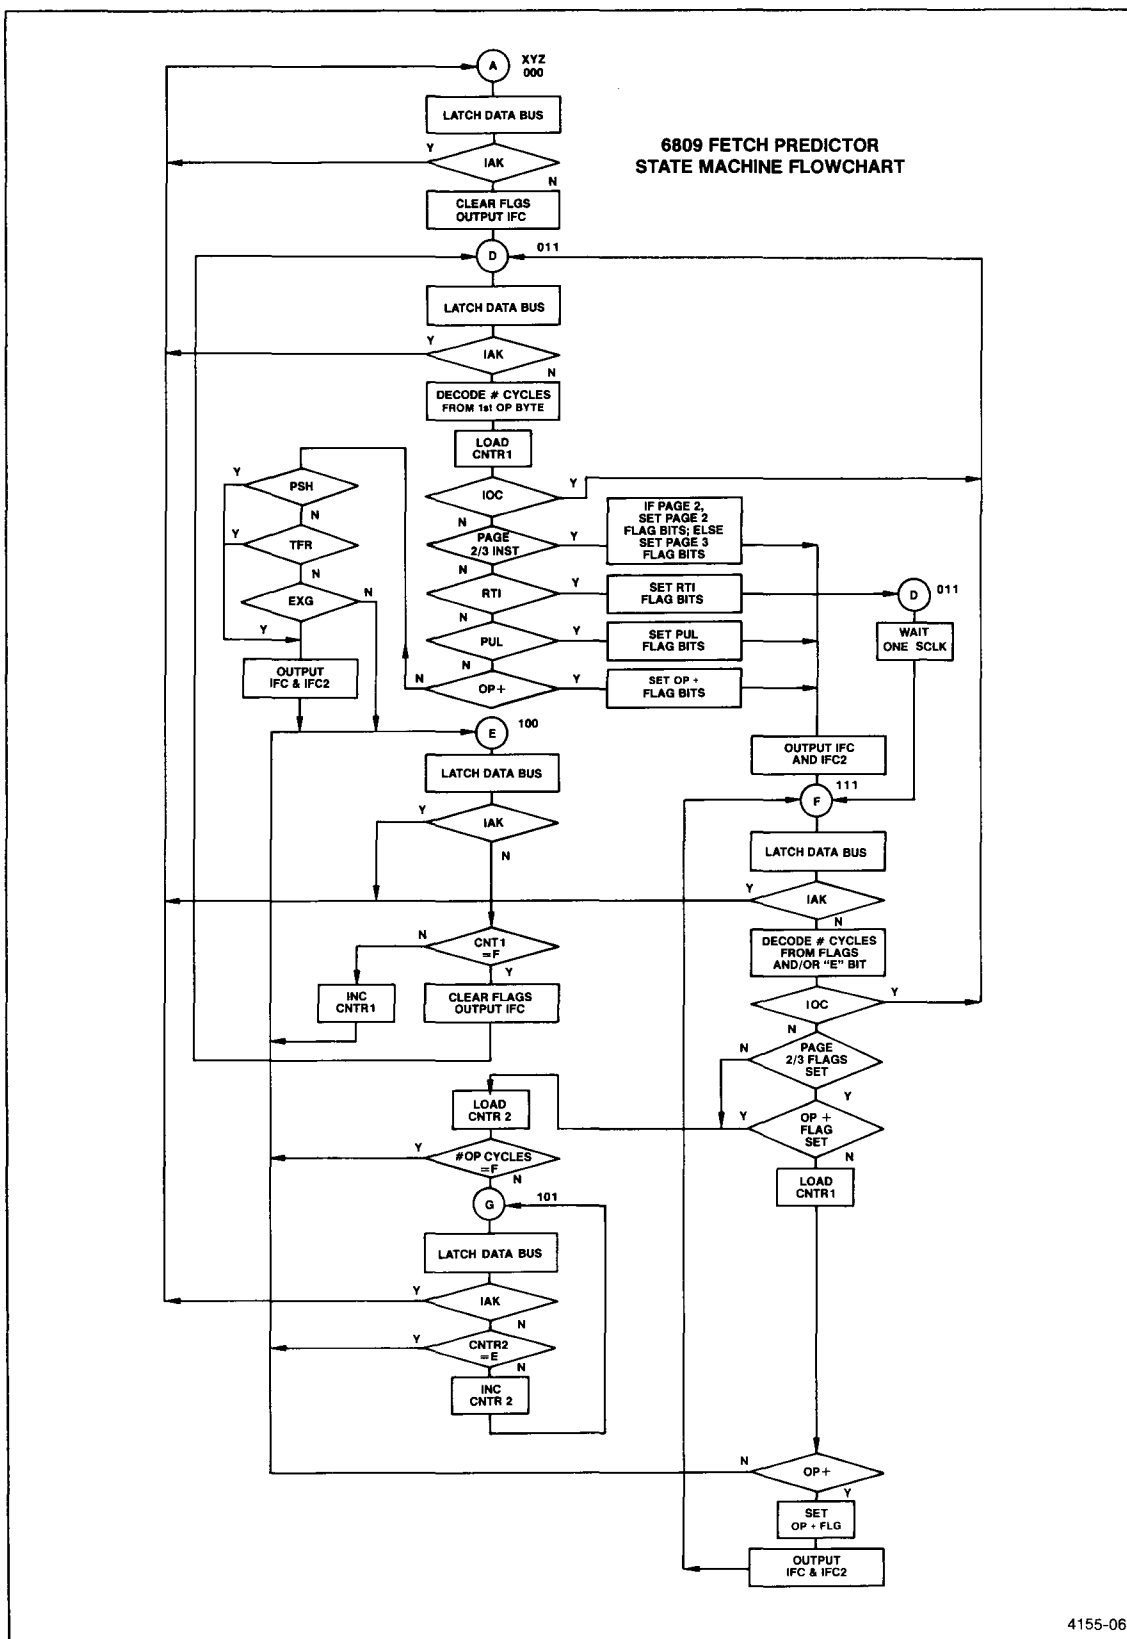

Figure 4-4. 6809 fetch predictor state machine flow chart.
The 6809 Fetch Predictor Flow Chart should aid in understanding the 6809 Fetch Predictor. As shown in the flow chart, IAK(L) (Interrupt Acknowledge) provides a convenient method of synchronizing the fetch predictor to the 6809 microprocessor. IAK(L), provided by the 6809, is generated in response to a Reset, an NMI(L), SWI, SW12, SW13, and, if their corresponding mask bits are not set, an IRQ(L) or FIRQ(L). Since the fetch of the first instruction of an interrupt service routine always follows 3 cycles after the detection of IAK(L), the state machine always jumps to state A. Refer to Figure 4-4. A reset and its corresponding IAK(L) can occur when the state machine is in any